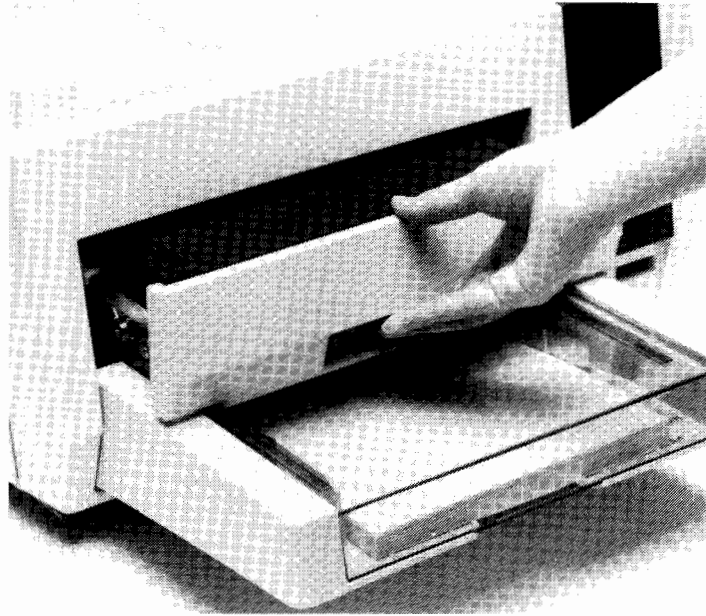

Figure 4-4. Opening Development Drawer
- d. Pull out the development drawer until it locks (figure 4-4).